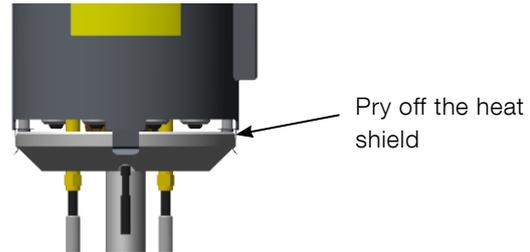

Figure 69: Heat shield
3. On each side, pry off the heat shield from the clips (see Figure 69 below).